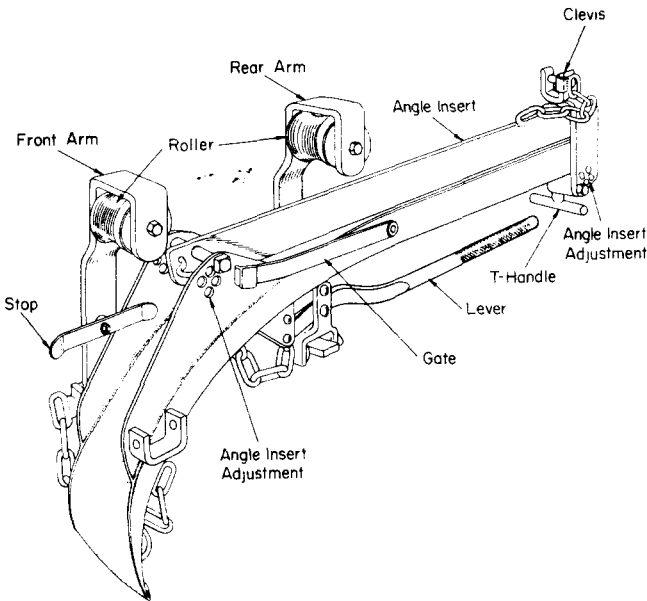

Fig. 1 — C Cable Guide
2.01 The C Cable Guide (Fig. 1) weighs 60 pounds and consists of a formed shoe for guiding the cable to its position at the suspension strand and an adjustable angle insert in the straight portion of the shoe which aids in removing bows from the cable. It accommodates sizes of cable between 1-3/4 and 3 inches in diameter.
2.04 Both arms (Fig. 1) are arranged to be mounted on either side of the guide without the use of a wrench. When used in lashing cable directly from a moving reel, the guide is placed on the strand with the arms mounted on the side of the guide opposite the pole. The guide is moved ahead of the lasher by a towing line.